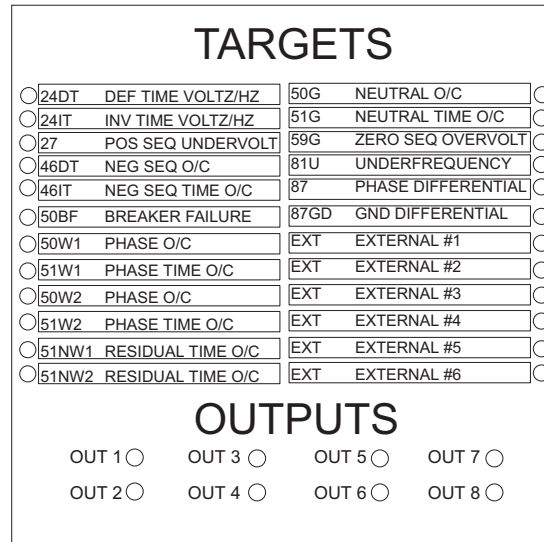

Figure 6-2 M-3910 Target Module
3. Repeat step 2 for each of the remaining target and output LED's shown in Figure 6-2.